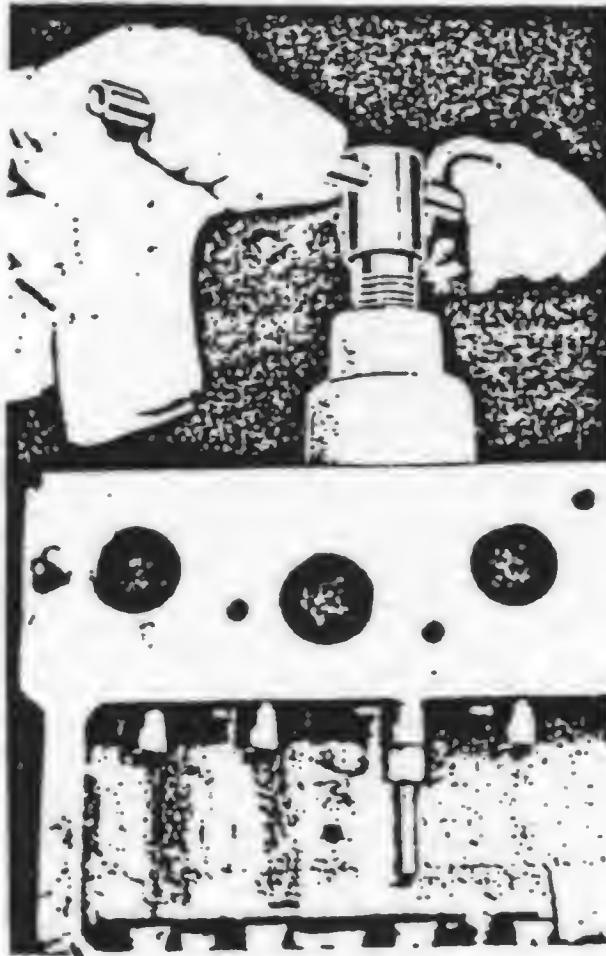

FIG. 19 REMOVING VALVE GUIDES
(1) When removing the valve guides use a valve guide puller to prevent damage to cylinder block. See (Fig. 19). If a regular puller is not available, a suitable tool can be made from a 2" pipe, 6" long and a  $\frac{3}{8}$ " bolt 10" to 12" long with a long threaded end, a small hexagon nut which will pass through the hole in the cylinder block and a 2" washer with a  $\frac{3}{8}$ " hole in it.